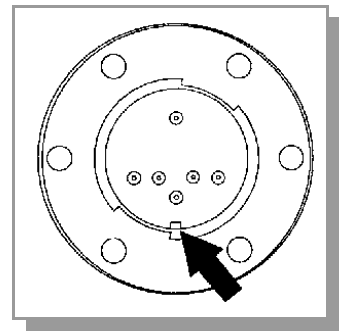
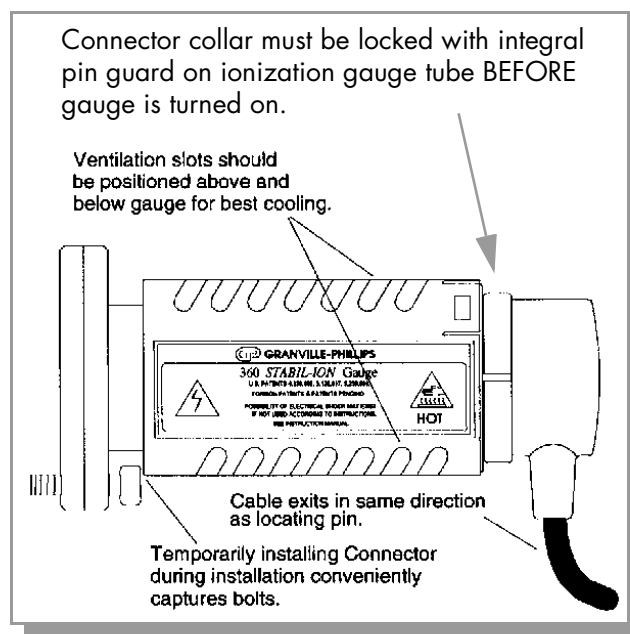

Figure 3-1
Figure 3-3 Stabil-ion Gauge with Connector and Guard.
- Any mounting orientation may be used. However, to minimize the possibility of excessive temperature at the electrical connector when degassing, do not install the Stabil-Ion Gauges with the electrical connector above the gauge. If it is necessary to install the gauge with the connector on top, degas time must be limited to 10 minutes/hour. See Section 2.1.7 on page 2-14. When mounted horizontally, the ventilation slots in the Guard will be oriented for best cooling if the gauge is installed with the locating key in the pin guard on the bottom. See Figure 3-1 and Figure 3-3. Note in Figure 3-3 that the cable will exit in the direction the locating key is oriented.